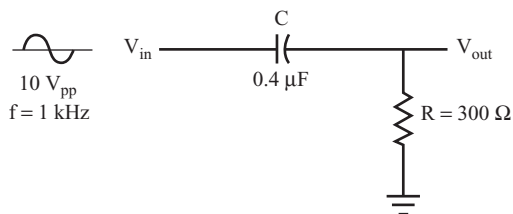

FIGURE 6.4
Use the following steps to calculate the impedance of the circuit, and the current flowing through the circuit, as shown in Figure 6.4.
**9** Now, for the circuit shown in Figure 6.4, calculate the impedance and current using the values provided.